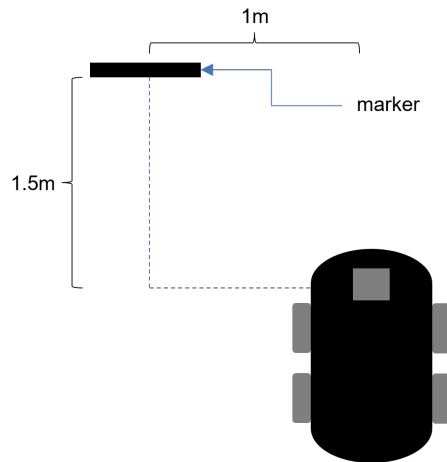

Fig. 2: UCTRONICS car and fiducial marker
- The goal of this section of the lab is to use the `fiducials` node to drive the UCTRONICS robot towards a fiducial marker and park the robot (1m,1.5m) away from the fiducial marker as shown in Fig.2.